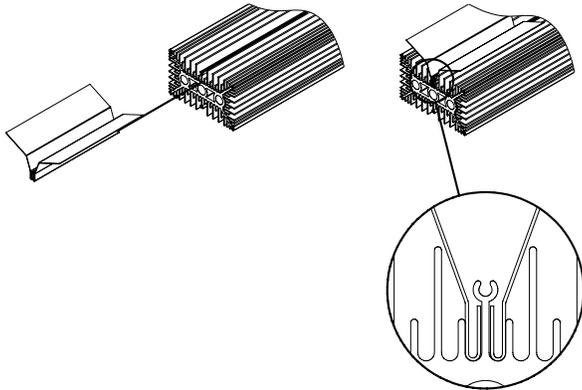

FIGURE 1 - REFLECTOR BAFFLES INSTALLATION
4.1 REFLECTOR BAFFLES (T2D units only). Refer to Figure 1 when installing reflector baffles.